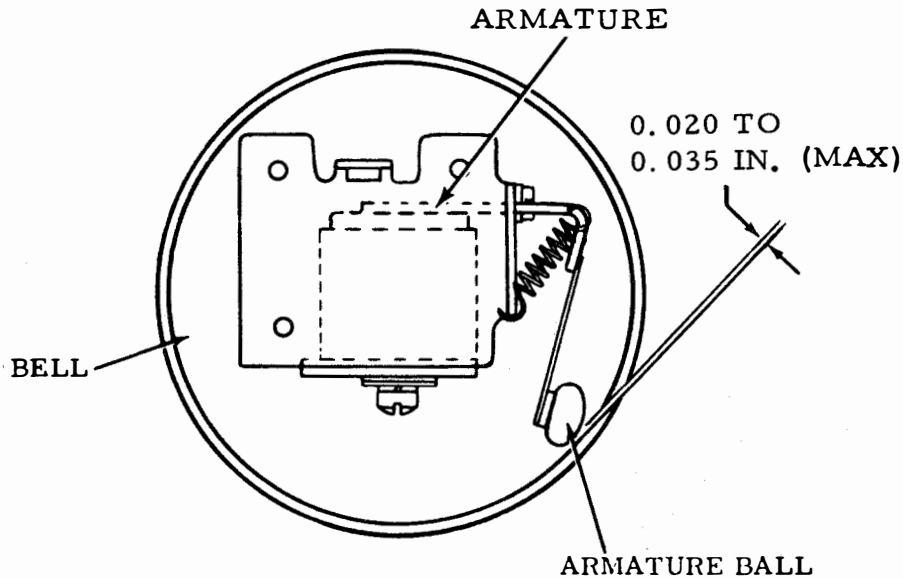

Figure 6-356. Cabinet Remote Signal Bell
(1) Refer to Figure 6-356.
(2) Hold armature against magnet core and measure clearance between armature ball and bell. This should be 0.020 to 0.035 inch maximum.
(3) To adjust, bend armature extension just below the armature spring.